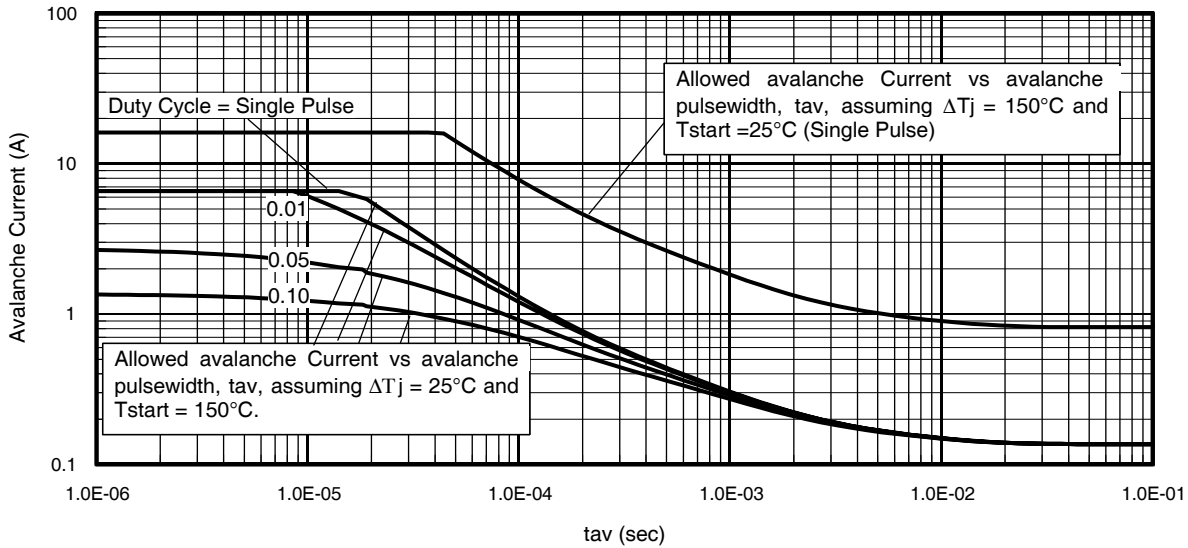

Fig 14. Typical Avalanche Current Vs. Pulsewidth
| I_{AR} | Avalanche Current ⑤ | See Fig. 14, 15, 17a, 17b | | A |
- ① Repetitive rating; pulse width limited by max. junction temperature.
- ② Starting $T_J = 25^\circ\text{C}, L = 1.46mH, R_G = 25\Omega, I_{AS} = 10A$.
- ③ Pulse width $\leq 400\mu s$; duty cycle $\leq 2\%$.
- ④ R_{θ} is measured at T_J of approximately 90°C .
- ⑤ Limited by T_{jmax} . See Figs. 14, 15, 17a, 17b for repetitive avalanche information
Notes on Repetitive Avalanche Curves , Figures 14, 15:
7. ΔT = Allowable rise in junction temperature, not to exceed T_{jmax} (assumed as 25°C in Figure 14, 15).